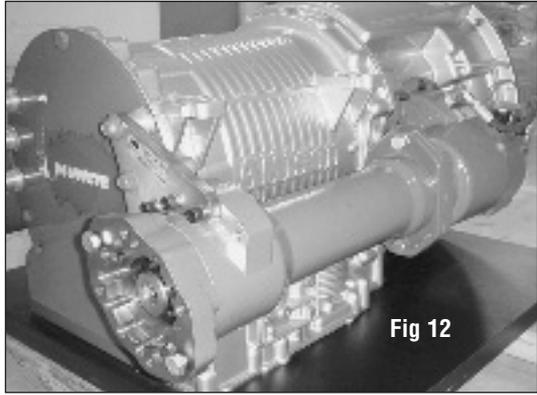

Fig 12
- 12.** Remove the cap plug from the end of the PTO output shaft and make sure splines are greased. PTOs are supplied with appropriate grease from factory. If dry apply an anti-fretting compound to splines. Installation of the extended shaft is complete. **Fig 12**